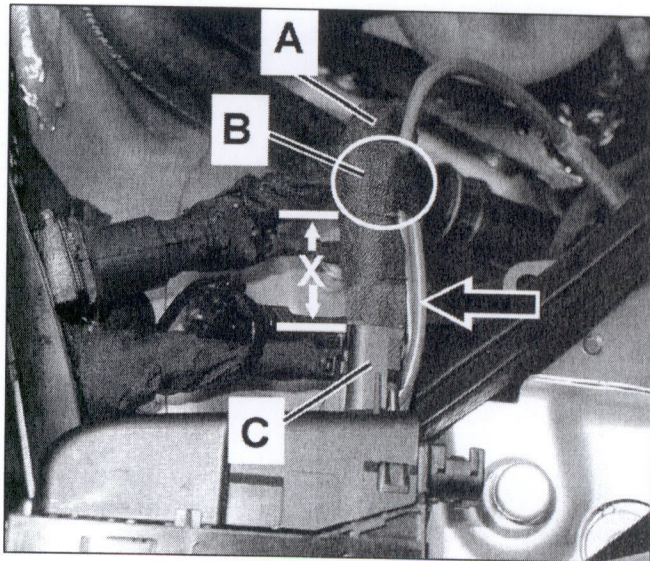

Figure 15
21. Secure ground wiring harness (arrow, Figure 15) to SBC wire harness (A) using two layers of fabric tape (B) in the circled area. Start taping approximately 35 mm (X = 35 mm, Figure 15) from end of connector cover receptacle (C).